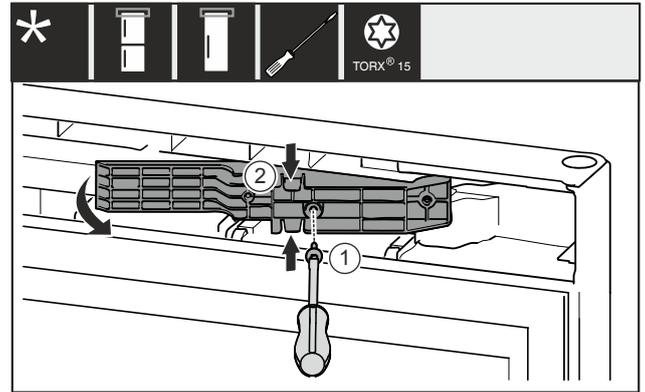

Fig. 16 *
- ▶ Remove the screw Fig. 16 (1)*
- ▶ Gently press the adapter piece Fig. 16 (2) together at the top and bottom and pull it out.*